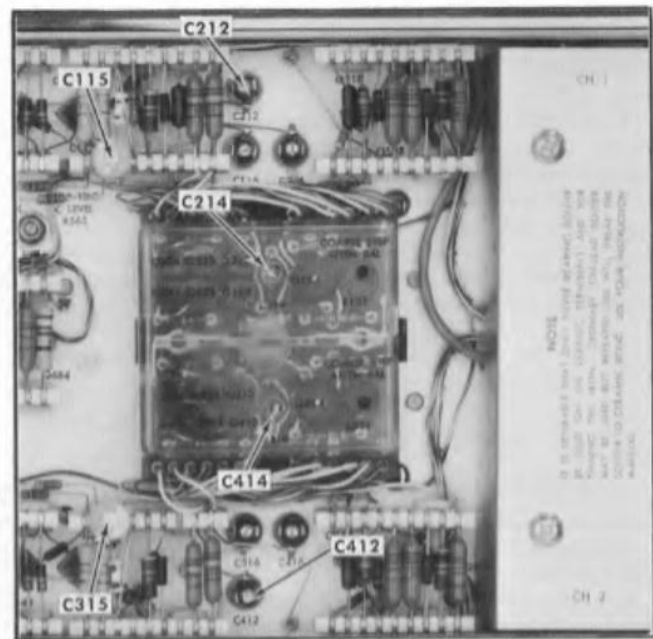

Fig. 6-16. Location of channels 1 and 2 high frequency differential balance adjustments.
- h. ADJUST—C115, see Fig. 6-16 for minimum display amplitude; then adjust C214 for minimum display amplitude. Alternately repeat the adjustments in this part until the smallest possible display amplitude is obtained. Reduce the sine-wave signal frequency to 1 kHz before proceeding to part i of this step.
- g. ADJUST—C315 (see Fig. 6-16), for minimum display amplitude; then adjust C414, for minimum display amplitude. Alternately repeat the adjustments in this part until the smallest possible display amplitude is obtained. Reduce the sine-wave signal frequency to 1 kHz before proceeding to part h of this step.